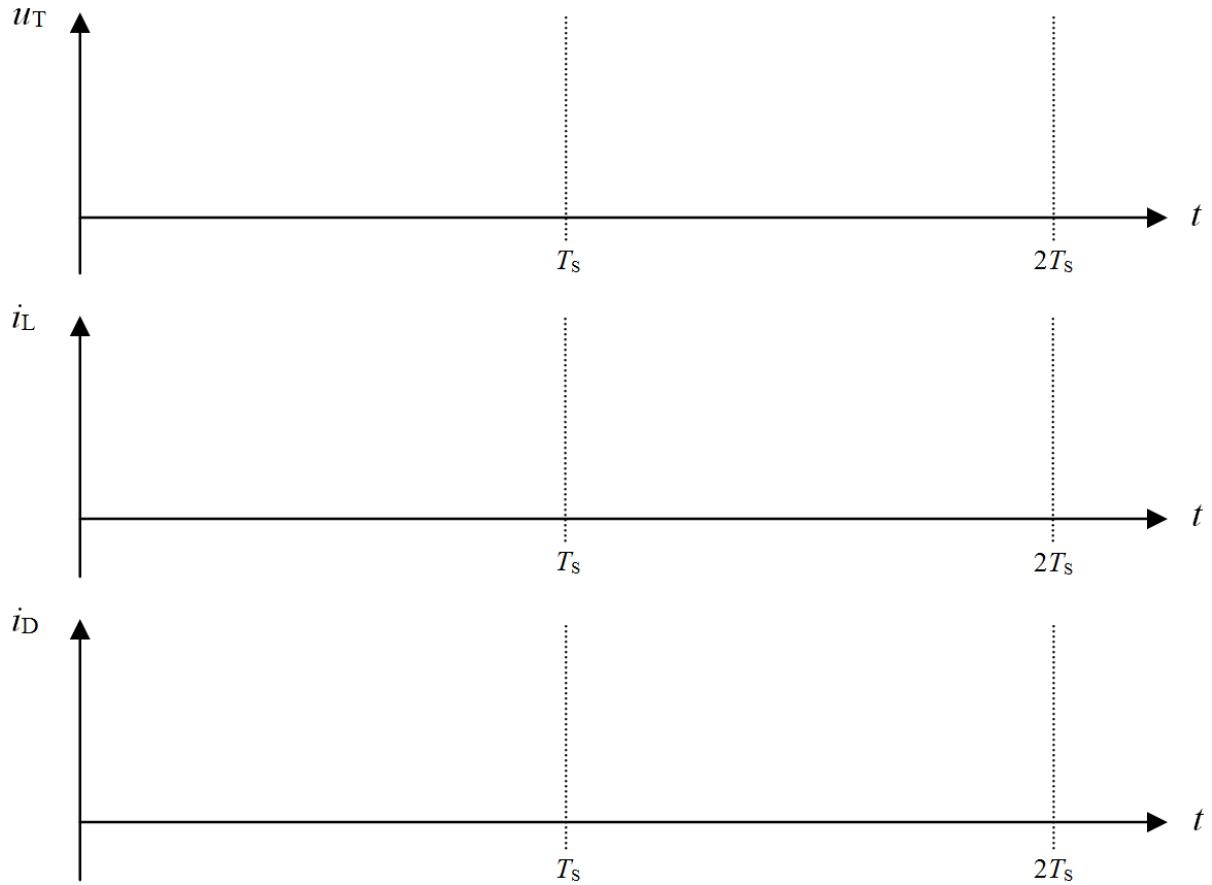

Figure 2.2: Transistor voltage, inductor and diode current
- 2.4** Draw the transistor voltage $u_T(t)$, the inductor current $i_L(t)$ and the diode current $i_D(t)$ over two periods in the diagrams in Figure 2.2. Determine the current conducting time span Δt_D of the diode (after the transistor has been switched off).